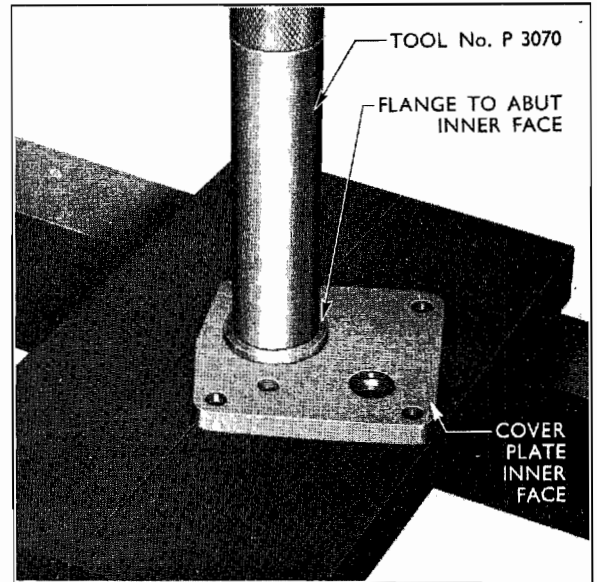

Fig. 4
- (a) Inspect the cover plate for burrs or damage and if satisfactory, press the flanged bush squarely into position, using Tool No. P.3070, so that the flange abuts the inner face of the cover plate, see Fig. 4.